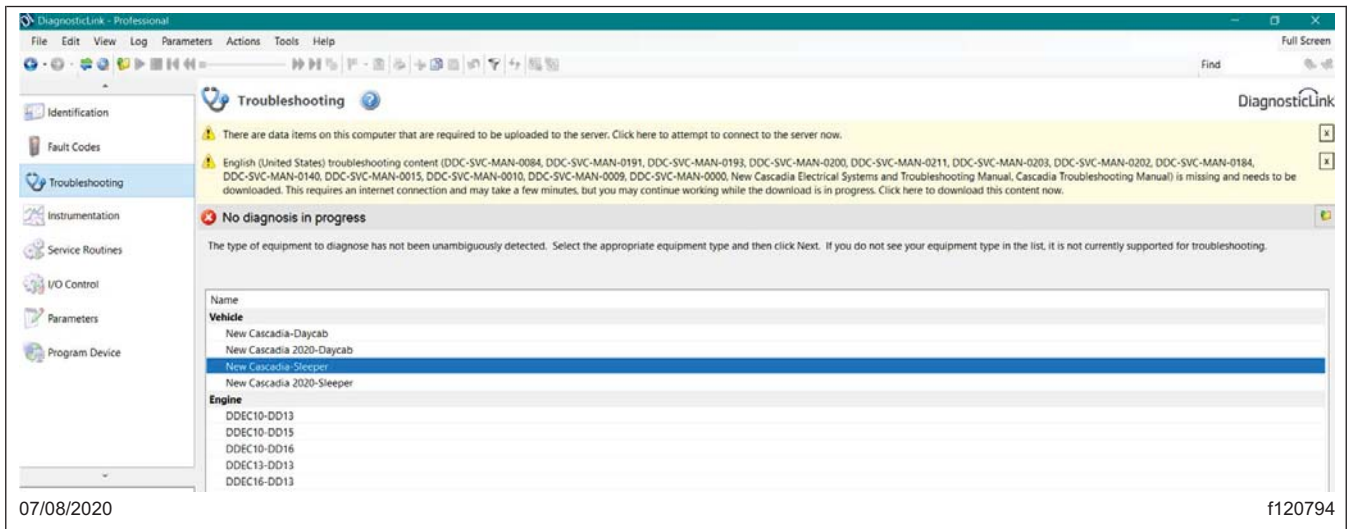
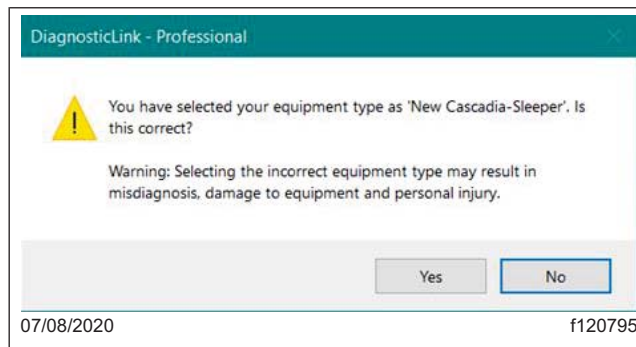

Fig. 2, Selecting the Applicable New Cascadia Model
Fig. 3, Verifying Vehicle Selection
- From the vehicle selection options, select the applicable New Cascadia model. If DiagnosticLink has already connected to the vehicle, only one option will be available. There is no need to pick any other options from this screen. See Fig. 2 and Fig. 3. Click the Next button to continue.